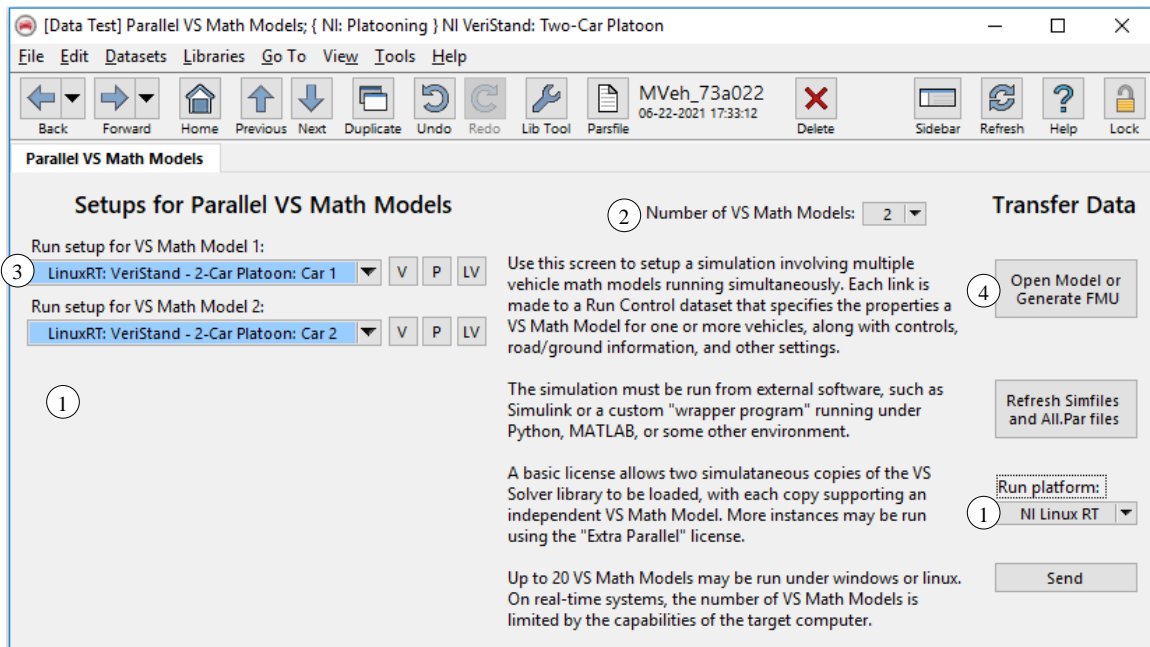

Figure 40. NI Linux RT Parallel Solvers Screen Setup.
From the Parallel Solvers screen, use the drop-down menu ① to select **NI Linux RT** as the Run platform (Figure 40).
After the vehicle math models have been defined, go back to the Parallel VS Math Models screen and click **Open Model or Generate FMU** ④ (Figure 40).